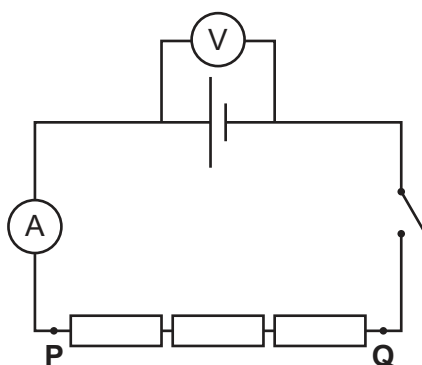
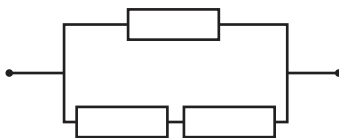

Fig. 1.1
Fig. 1.2
- sufficient connecting leads to construct the circuit shown in Fig. 1.1, with six additional leads.
1. The circuit is to be connected by the supervisor as shown in Fig. 1.1. Points **P** and **Q** must be labelled. It must be possible for a candidate to connect a component into the circuit at points **P** and **Q**.
3. Three resistors are required to set up the circuit in Fig. 1.1. The other three resistors must be arranged as shown in Fig. 1.2 and their arrangement must be hidden from the candidate's view (e.g. covered with a folded sheet of card taped at both ends or enclosed inside a small plastic or cardboard box). It must be possible for candidates to connect the hidden arrangement into a circuit. The arrangement should be labelled **unknown arrangement U**.
Set up the circuit so that it is arranged as shown in Fig. 1.1.